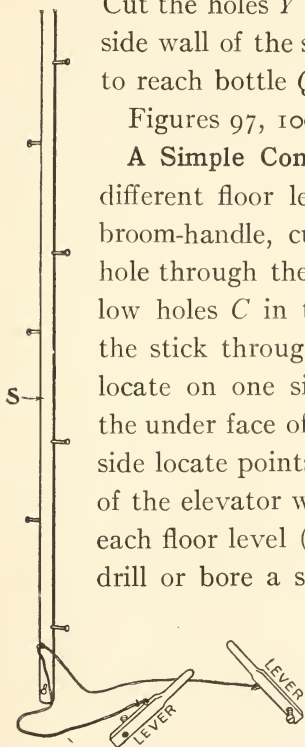

FIG. 103. — Detail of Brake and Controlling Levers.
**Two Levers** operate the brakes (*W*, Figs. 97 and 100). Cut these of the shape shown in Fig. 103, and screw one to each side wall. Then tack a piece of cord to stick *S*, wrap the ends of the cord once around, slip them through screw-eyes *V* screwed into the side walls, and tie to tacks driven into levers *W*.